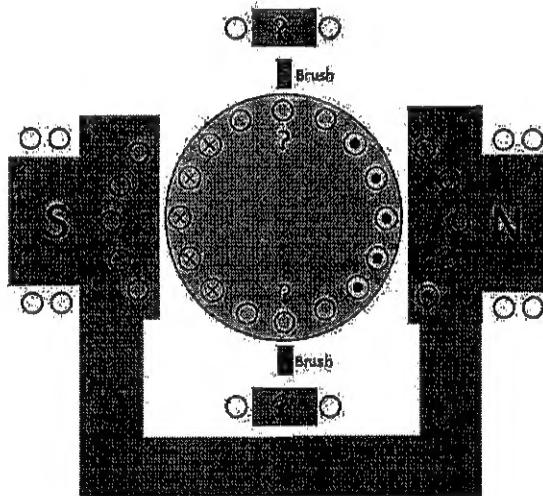

Figure 1
(a) Figure 1 shows a round rotor DC Generator cross section diagram. Stator poles and rotor conductor current direction are shown in the diagram. Your are required to re-draw the diagram in the answer booklet and find the following:
- Name the four winding used in the Figure 1 diagram. [2 Marks]
- Draw the GNA and MNA axis for Figure 1 diagram. [3 Marks]